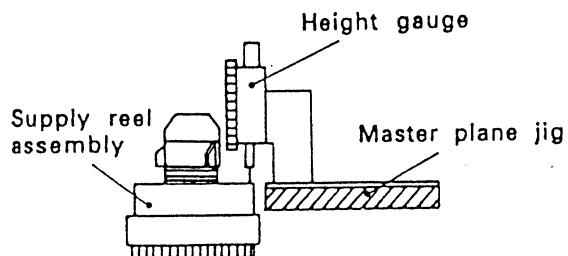

Fig.4 Reel height adjustment
- c) Check reel assembly height measure at two places 90° apart ( $\pm 0.2$  mm) Fig.4.